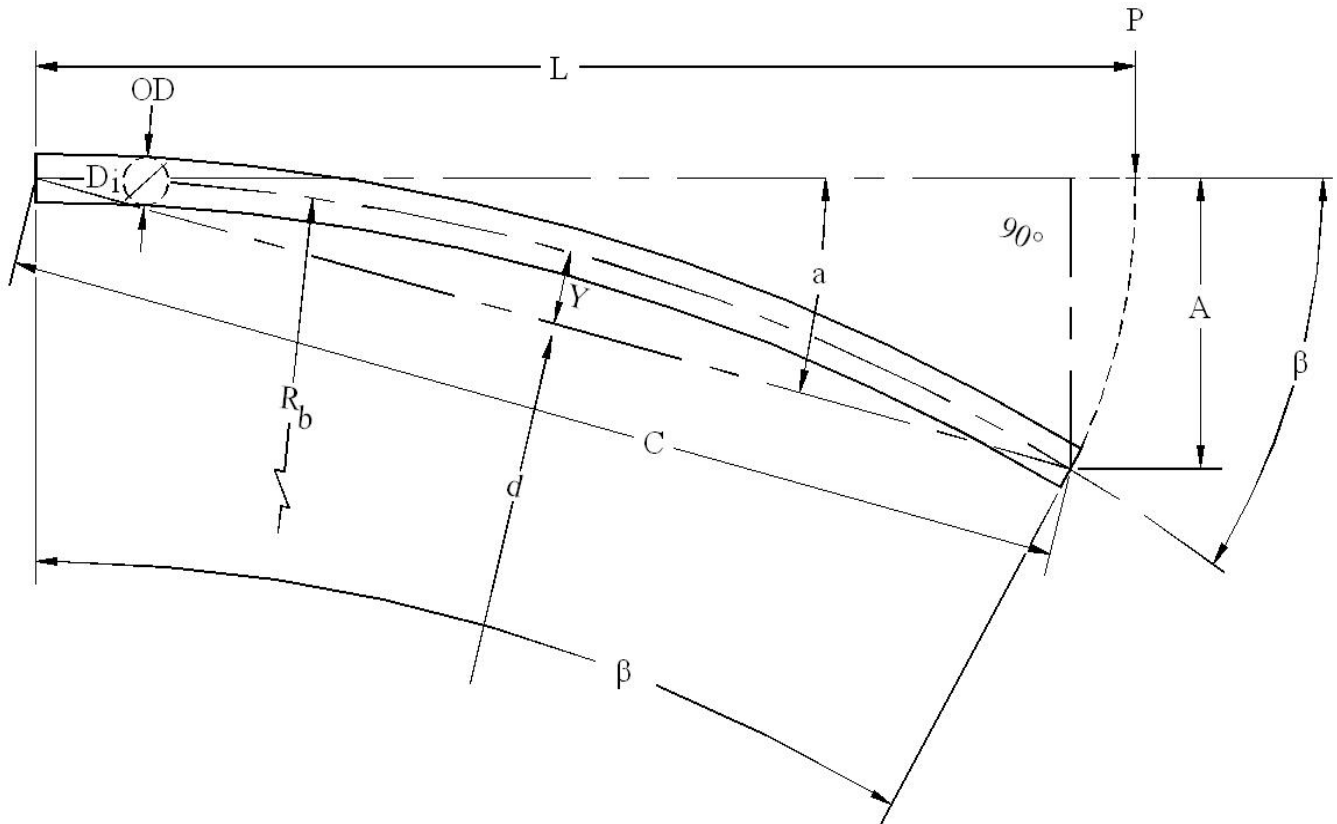

Figure 1: Longitudinal Bending Diagram is provided by the Uni-Bell PVC Pipe Association “Handbook of PVC Pipe Design and Construction”.
1. Allowable Longitudinal Bending Method – Figure 1.